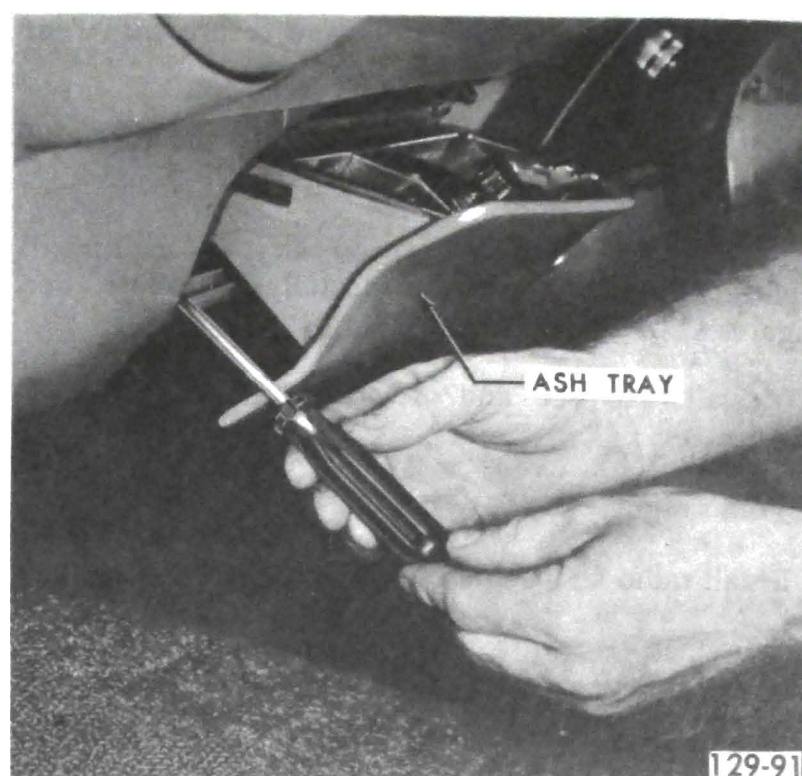

Figure 129-6
4. Remove the ash tray by unscrewing (4) screws and pulling the ash tray and frame from the instrument panel. See Figure 129-6.
3. Install the ash tray assembly and secure with four (4) screws. See Figure 129-6.